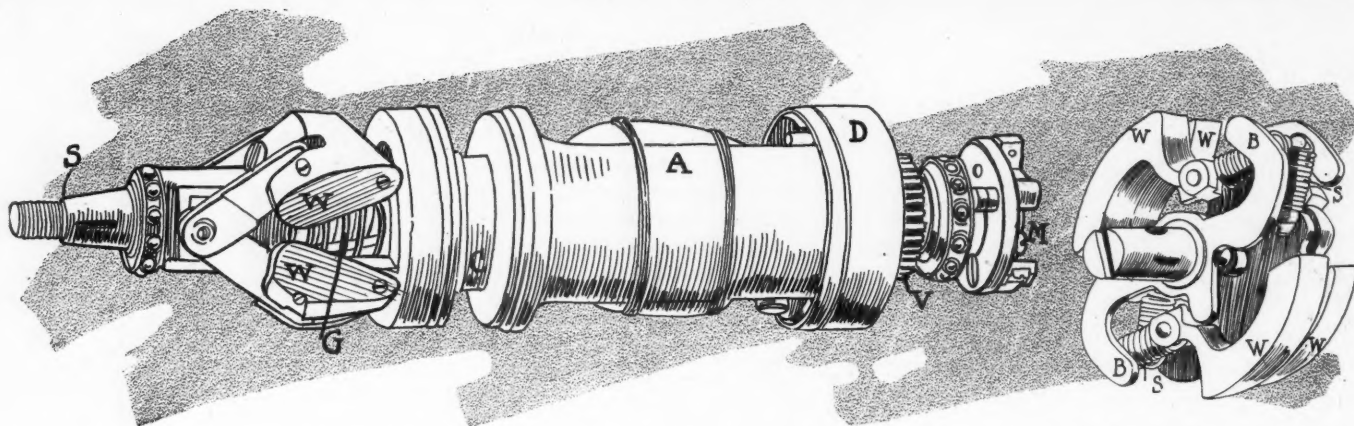

FIG. 18—DETAILS OF AUTOMATIC SPARK CONTROL ARMATURE ON EISEMANN
**Eisemann**—An automatic spark advance continues to be the feature of the Eisemann magnetos. Fig. 18, illustrating the armature with the automatic advance,